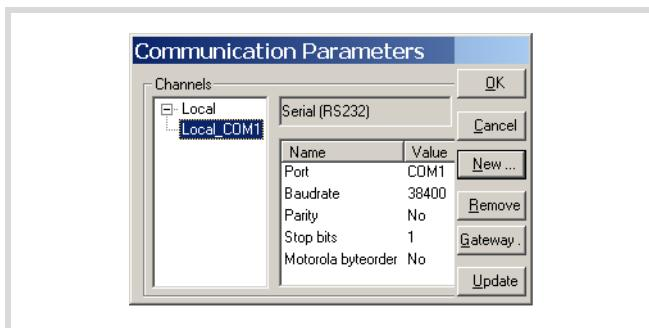

Figure: 72: Defining the PC's communication settings
The communication parameters of both the PC and the PLC must match in order to establish a connection between them. The default parameters are set as shown in figure 72 on devices that are used for the first time. Just select the COM... interface on the PC. No other settings are required.
- ▶ Use the remaining settings as shown in figure 72.